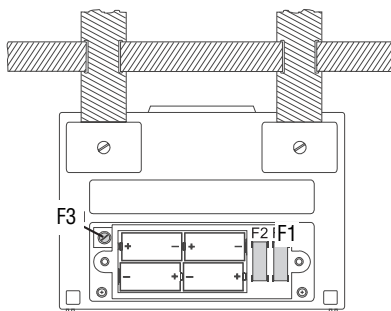

Figure 119: Battery and Fuse Replacement
- ▶ Remove the battery case cover (24) using of both battery case screws (25)
- ▶ Remove the discharged batteries and replace with four Alkaline batteries 1.5V type IEC LR 14. Respect the polarity of batteries inserted, please refer to Figure 119, Page 74.
- ▶ Close the battery case cover (24) again by tightening both battery case screws (25).
If a fuse has blown due to overload or improper handling, the fuse has to be replaced. The battery case is equipped with three fuses (please refer to Figure 119).
- ▶ Remove the battery case cover (24) using both battery case screws (25)
- ▶ Remove the respective fuse (please refer to Figure 119) and replace by a new fuse of the same type, please refer to section 9.4.2.